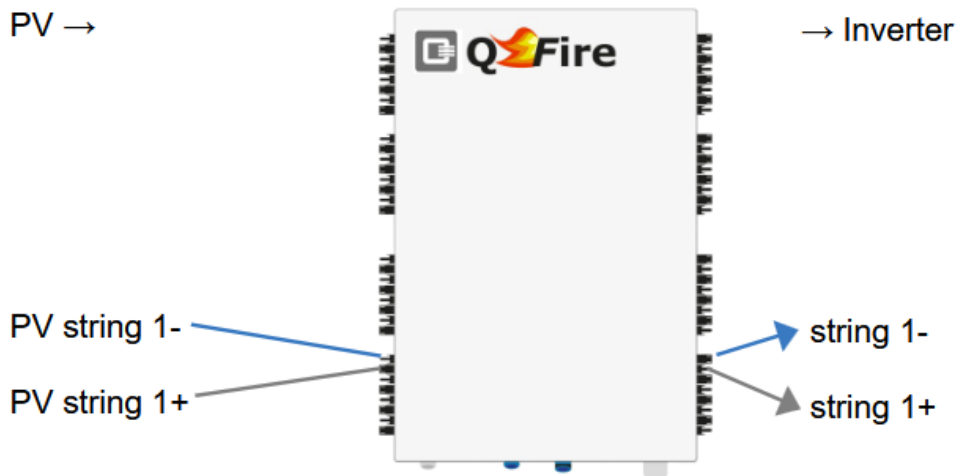

Figure 16: Connections switch box
2. Connect PV strings to the MC4 plugs of the switch box(es), see figure 16:
- All strings up from the switch box right side (see figure 16) must now be voltage-free.